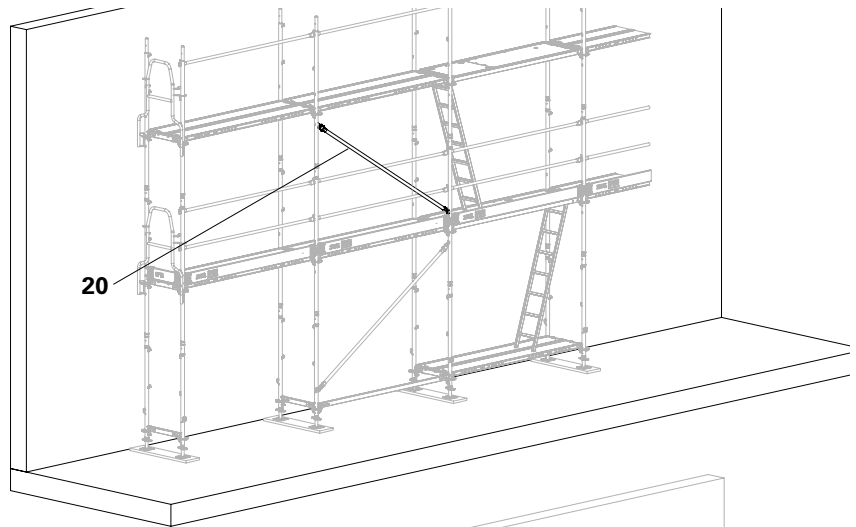

Fig. B4.03
6. Fit Face Braces EBF (20) in accordance with the Section Tie pattern. (Fig. B4.03)